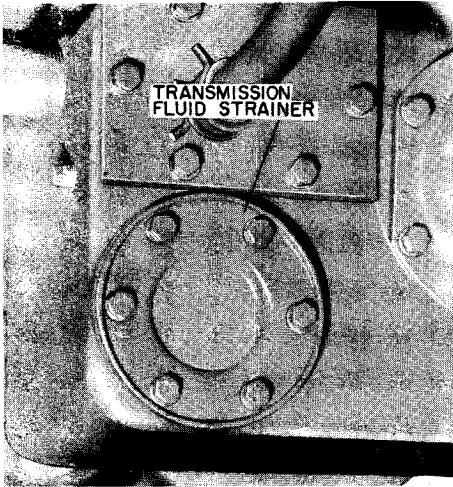

Figure 12. Transmission Fluid Strainer
2. Remove the fluid strainer, Figure 12, and clean with mineral spirits, using a soft bristle brush. Reinstall clean strainer screen in transmission.